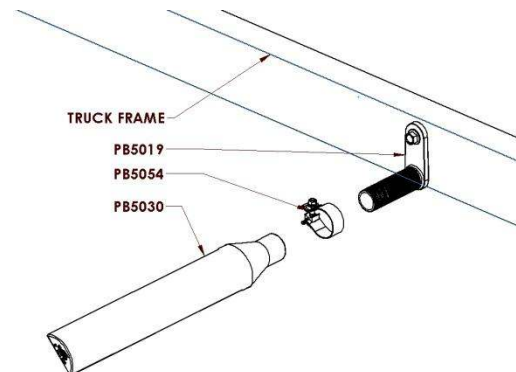

Figure 11
- A. Bolt the remaining PB5019 swivel brackets to the truck frame as shown in Figure 11 and tighten the nut so the brackets suit the desired position of the fender. **Recommended torque for the 5/8" X 4-1/2" bolts is 160-170 ft-lbs**